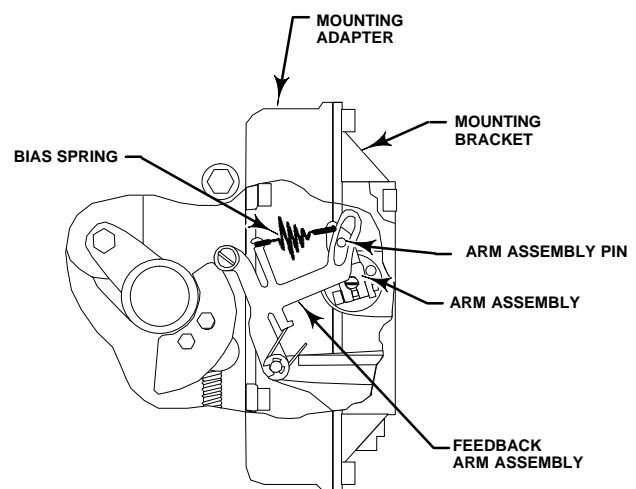

Figure 2-8. Locating Adjustment Arm Pin in Feedback Arm of a FIELDVUE DVC6020f Digital Valve Controller
6. Apply anti-seize (key 64) to the arm assembly pin as shown in figure 2-8.